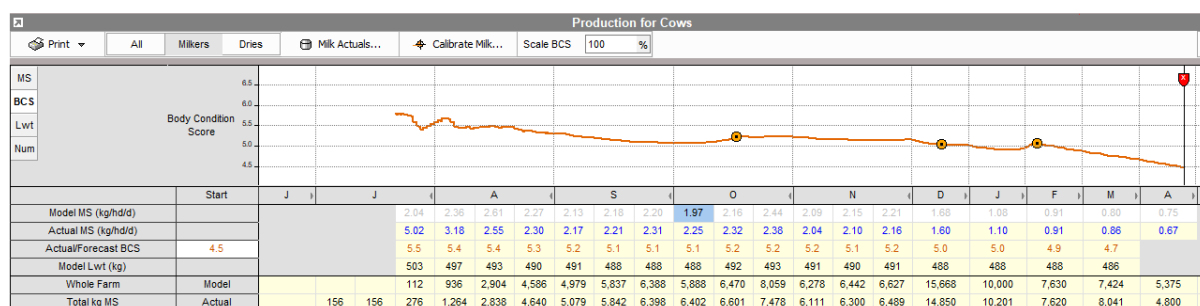

Figure 4 Body Condition Score component of the Production section of the Performance screen
- manipulate modelled Milk production (Figure 2) or BCS (Figure 4) using the new scaling factors (explained below), or